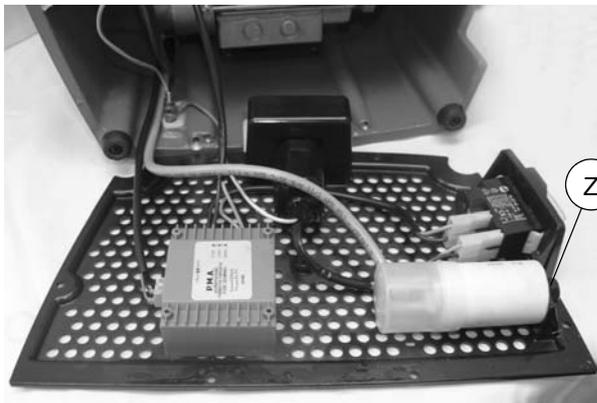

Fig. 31
- Loosen the nut (Z) (fig. 31) and remove together with the washer.
- Loosen the nut on the wire grommet (X) and remove the condenser.
- Fit the new condenser, taking the wire through the nut (X) replace the motor box and secure with the 4 screws (X1).
- Tighten the grommet nut (X), replace the motor box and secure with the 4 screws (S4).